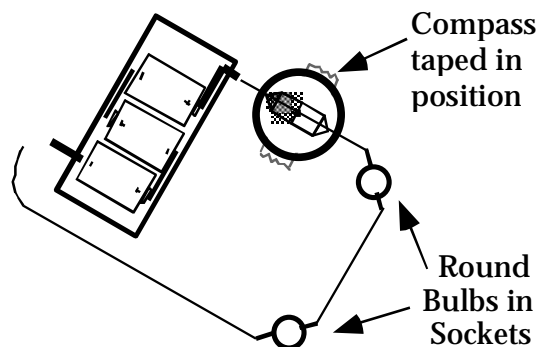

Figure 1.2a
3. Disconnect the loop somewhere. Place a wire, which is attached to the battery on top of the compass (Figure 1.2a), and align this wire parallel to the needle of the compass and directly over the needle.
When you have assembled the loop in Figure 1.2a, connect and disconnect a wire several times while you observe the compass needle. It's a good idea for one person to hold the wire on top of the compass while another connects and disconnects the loop.